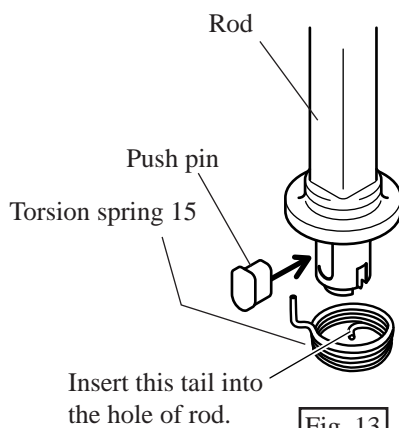

Fig. 13
1. Apply MAKITA grease FA No.2 to push pin and set it in the hole of rod. And assemble torsion spring 15 to rod by inserting its tail shown in Fig. 13 into the hole of rod.